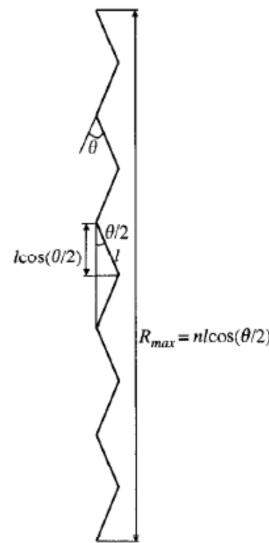

Figure 1.6: Straight chain estimation of a polyolefin.
- Example: In the case of a fully elongated carbon-carbon chain (Figure 1.6), the number of Kuhn steps is